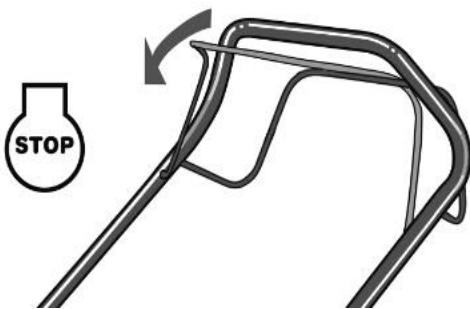

Fig 9
1. Release brake control handle to stop motor and blade. (Fig.9)